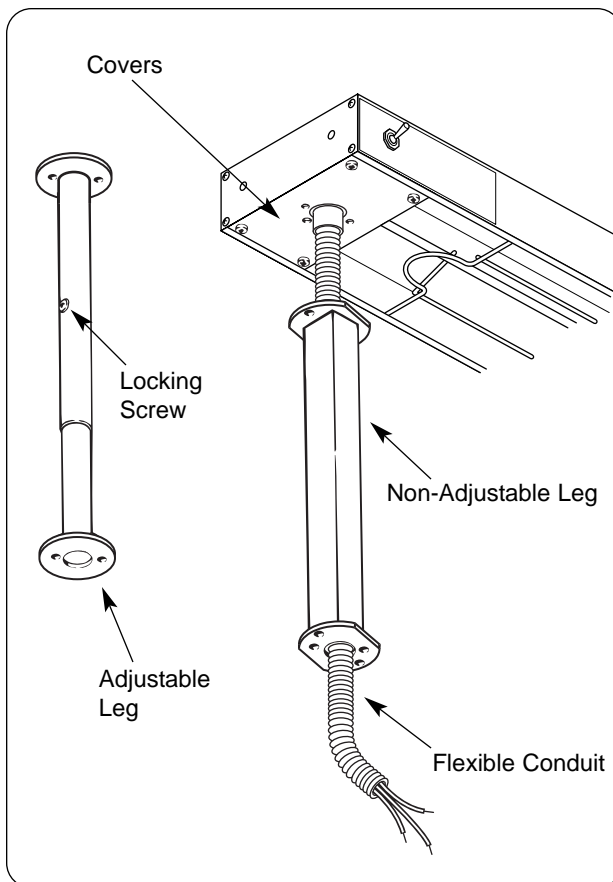

Figure 15. Tubular Stand Mounting
3. If applicable, route flexible conduit through the leg opening. Pull the leg up to the underside of the warmer. (See Figure 15.)